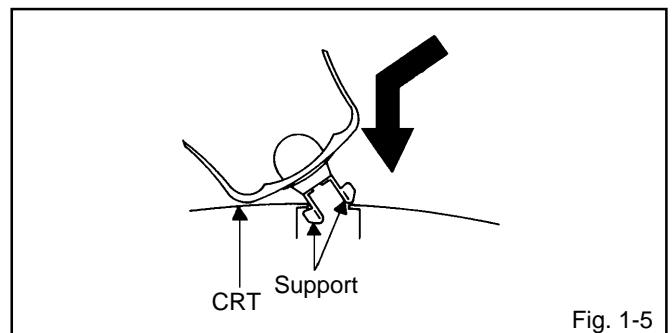

Fig. 1-5
4. Insert one end of the Anode Support into the anode button, then the other as shown in Fig. 1-5.